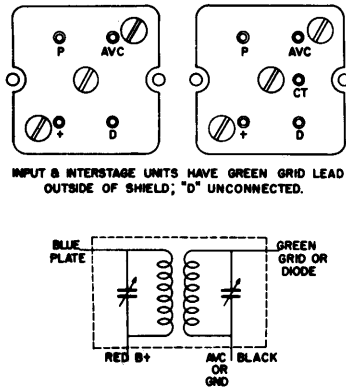

FIG. 1
3. Don't connect the new unit according to the same code as the old one unless it corresponds to the following code: Use only Blue for Plate, Green for Grid or diode, Red for B-plus and Black for AVC or Ground as the case may require. Yellow is used for the Center-Tap when required. Transformers having terminal bases instead of color-coded leads are connected as shown in Fig. 1 below.